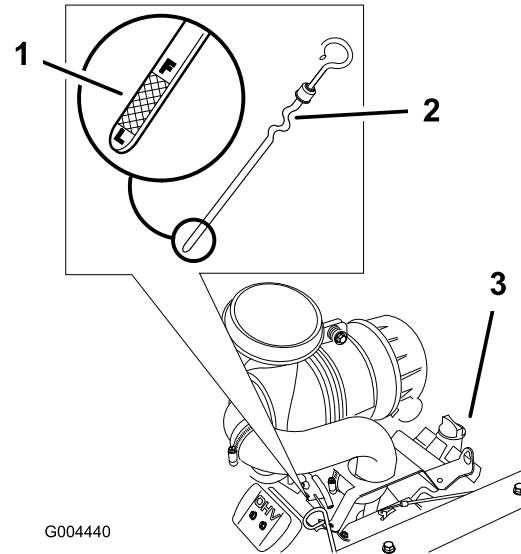

Figure 29
- Clean around the oil dipstick (Figure 29) so dirt cannot fall into engine.
- Pull the oil dipstick and wipe the metal end clean (Figure 29).
- Slide the oil dipstick fully into the engine. Pull the dipstick out and look at the metal end (Figure 29). If oil level is low, slowly pour only enough oil into the filler tube to raise the level to the full mark.
9. Slowly pour approximately 80% of the specified oil into the filler tube (Figure 29).